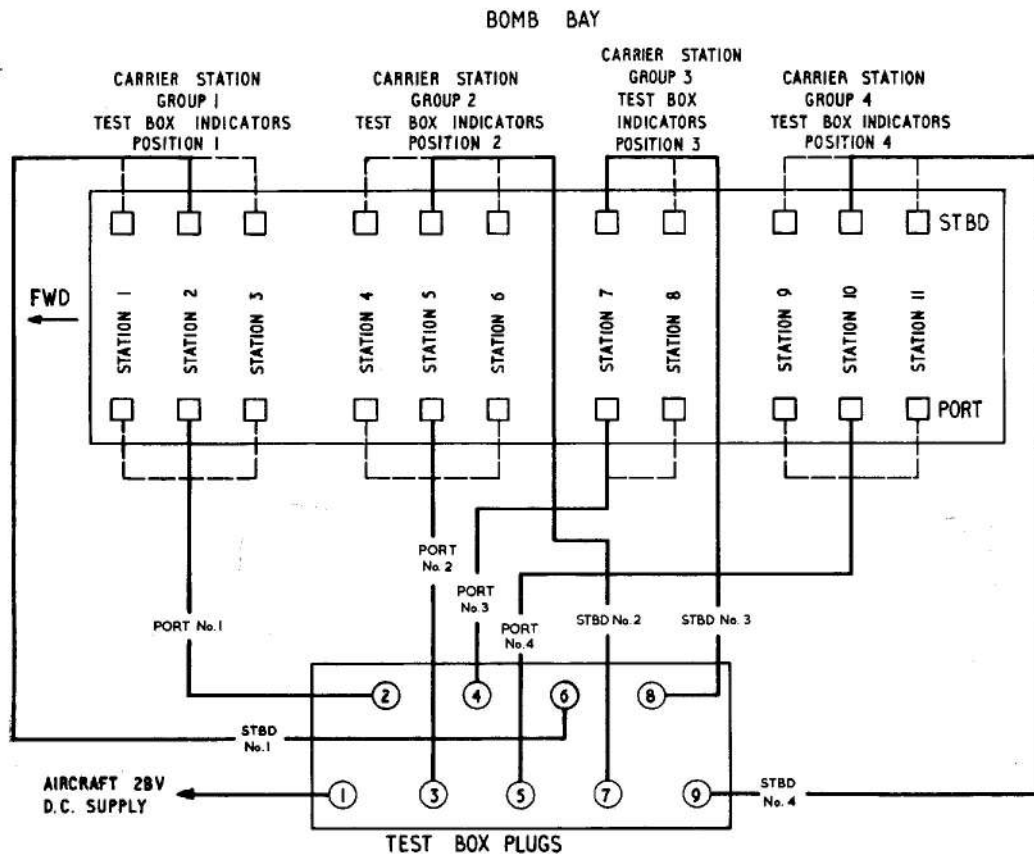

Fig. 5. Interconnection diagram
8. The test box input plugs are mounted on a recessed panel on the front of box and covered by a hinged panel. The plugs are numbered 1 to 9 and are connected to the aircraft as shown in fig. 5.
12. The test set is connected to the aircraft in the manner shown in fig. 5, with the equipment positioned about mid-way along the bomb bay. The 28V supply connector is